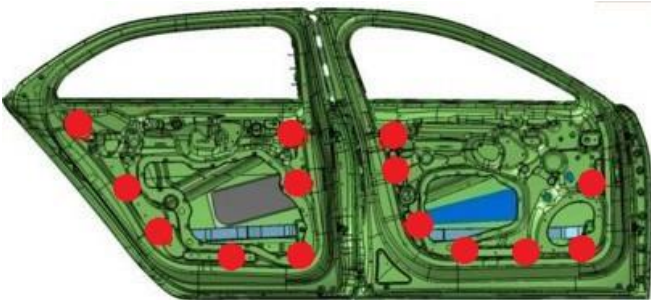

Figure 2
The door trim clips fit / secure onto the door panel tucker studs, the tucker studs are located as shown in Figures 2 and 3 (Depending on model)
- Flying Spur (front and rear doors) - Figure 2